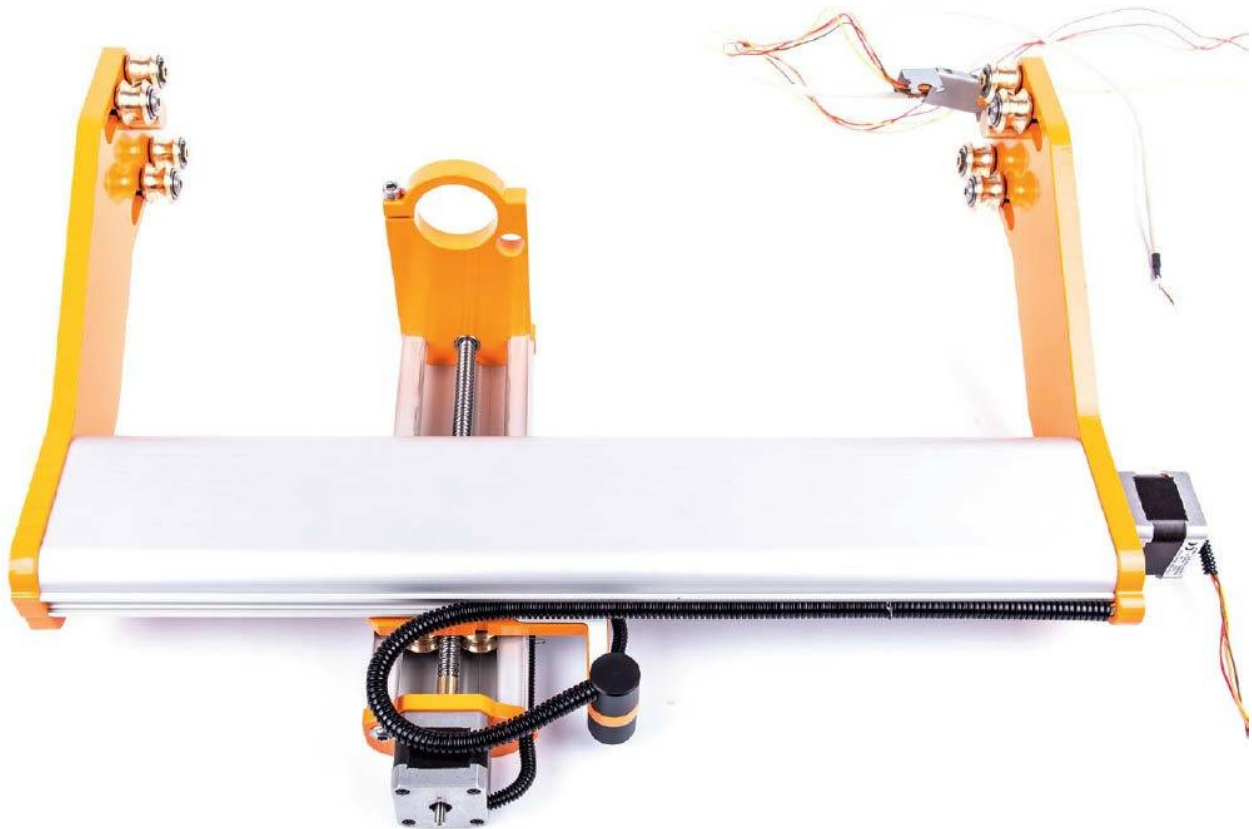

Fig. 2.51 *The mounted X lead screw*
6. As shown in figure 2.51, thread the X lead screw through the large hole in the left-hand side panel and between the Z axis rollers. Insert the lead screw 6-8 inches (15-20 cm) into the lead screw nut.